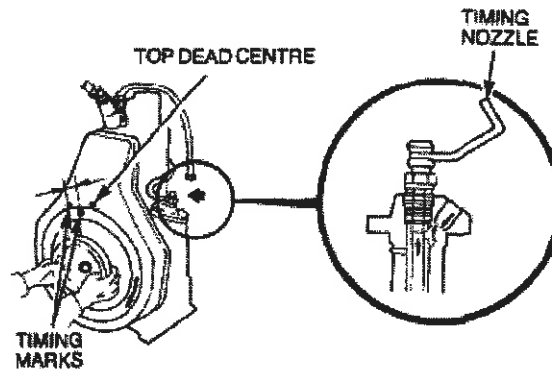

Figure 14 Injection Timing Retarded
- m. The injection timing is retarded if the fuel supply does not stop when the timing marks align as shown (Figure 14).